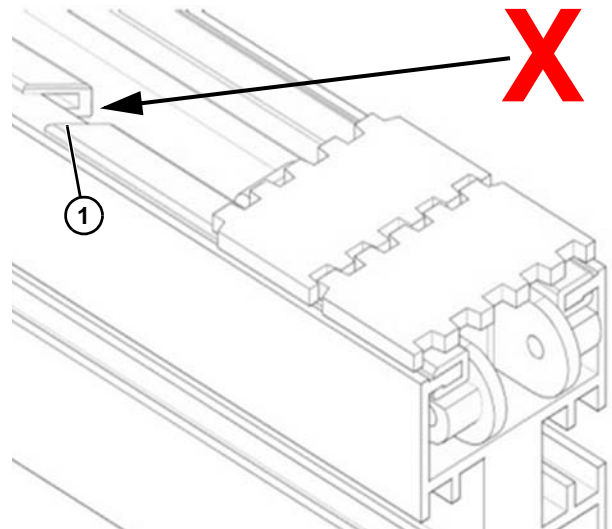

Figure 107
- Check that the gap (**Figure 107, item 1**) between the slide rails and that the joints fit correctly.